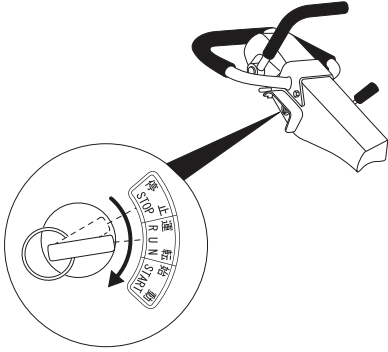

Figure 38. Ignition Switch (RUN)
- Turn the key **clockwise** to the **RUN** position (Figure 38). The buzzer will begin to sound.